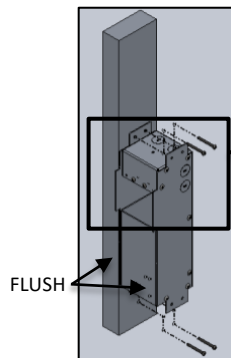

FIG. 11- J-BOX ASSEMBLY TO WALL
4. Attach RECESSED JUNCTION BOX to WALL STUD or CEILING JOIST at desired height and location before drywall is installed as shown below in FIG.11. Use appropriate anchor screws to secure to stud.